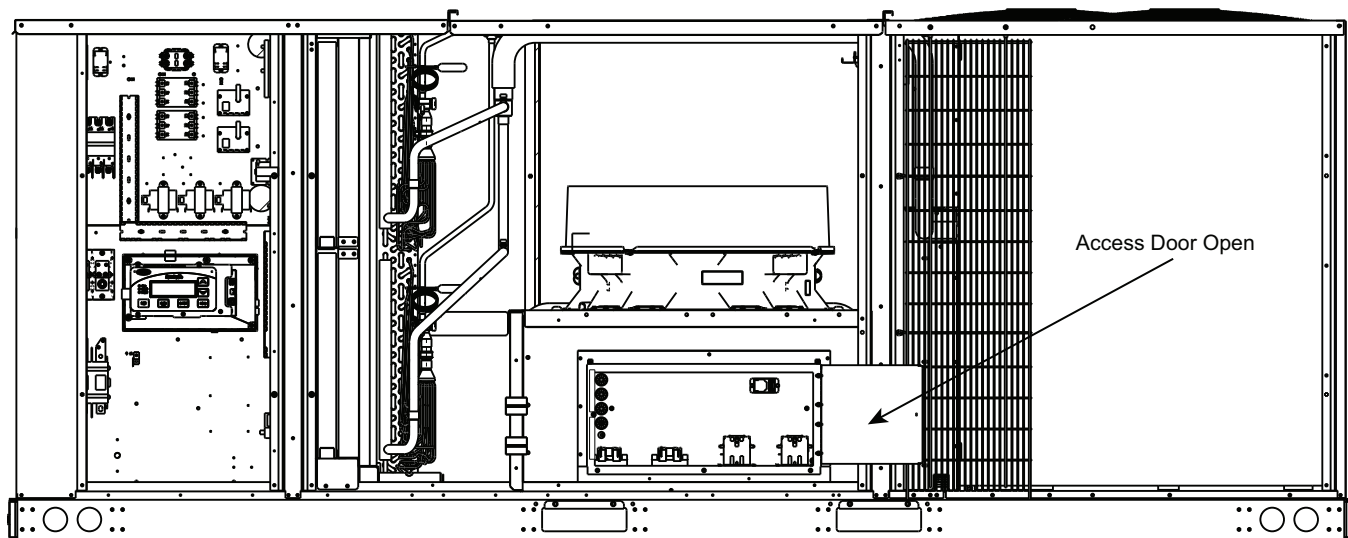

Fig. 42 — Electric Heater Accessory In Place (Shown with Access Door Opened)
5. Slide heaters until completely installed such that heater controls are completely in the unit. Using screws saved from Step 3, secure heater assembly. (See Fig. 42.)